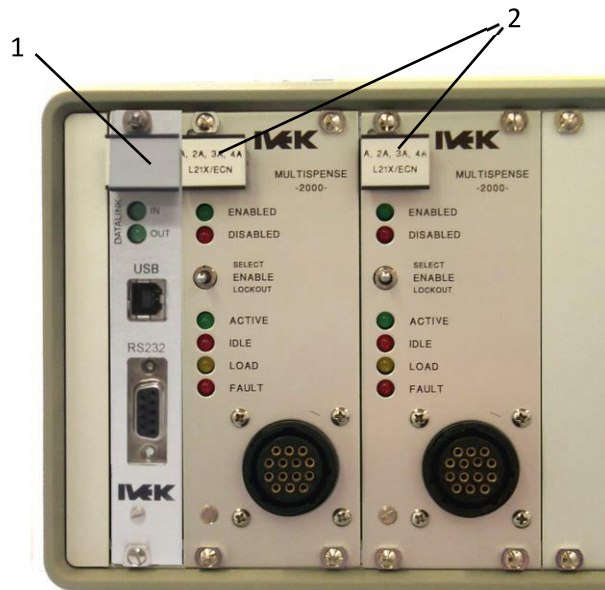

Figure 3.4 Multispense 2000 Controller Module (Sheet 1 of 2)
3.5.1.1 Master Plug-In (Figure 3.4 Item 1)
3.5.1.2 Channel Plug-In (Figure 3.4 Item 2)
The illustrated parts breakdown (Figure 3.4) contains replacement parts for the Controller Module.